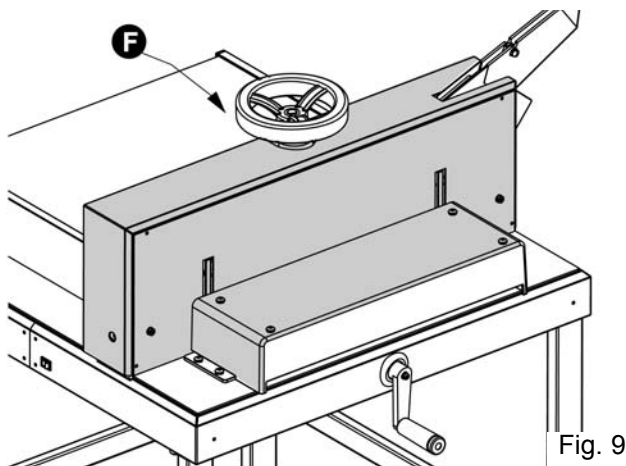

Fig. 9
- (22) Place the blade lever at 75° to table and replace the cover and screws. (Fig. 9)
- (23) Reattach the clamping wheel and screw (F).
- (24) Assemble the safety cap.